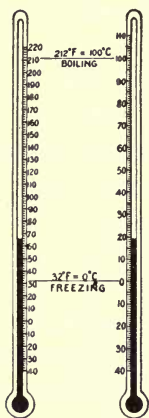

FIG. 61.—Centigrade and Fahrenheit Scales.
**103. Relation between Fahrenheit and Centigrade Scales.**—While all temperature measurements in American and English shops are expressed according to the Fahrenheit scale, it is often necessary to change the Fahrenheit into the Centigrade readings. Below is given a comparison of the two at the boiling and freezing points, together with conversion formulas for use in changing readings from one standard to the other. (Figure 61.)